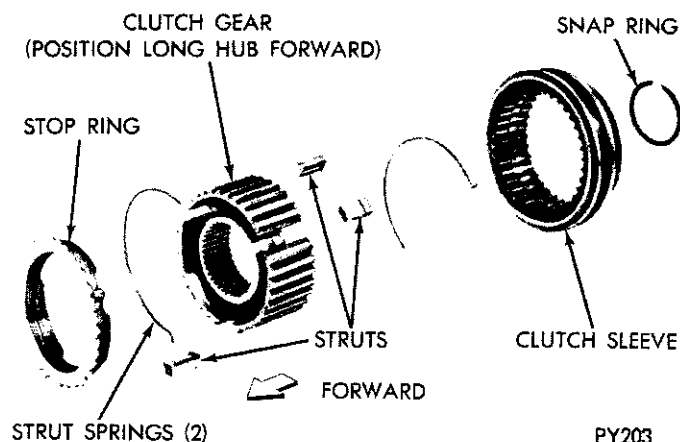

Fig. 28—1st-Reverse Synchronizer—Disassembled
(13) Sub assemble the synchronizer parts in the order shown in (Figs. 28, 29 and 30) as follows: Place a stop ring flat on the bench followed by the clutch gear and sleeve. Drop the struts in their slots and snap in a strut spring placing the tang inside one strut.